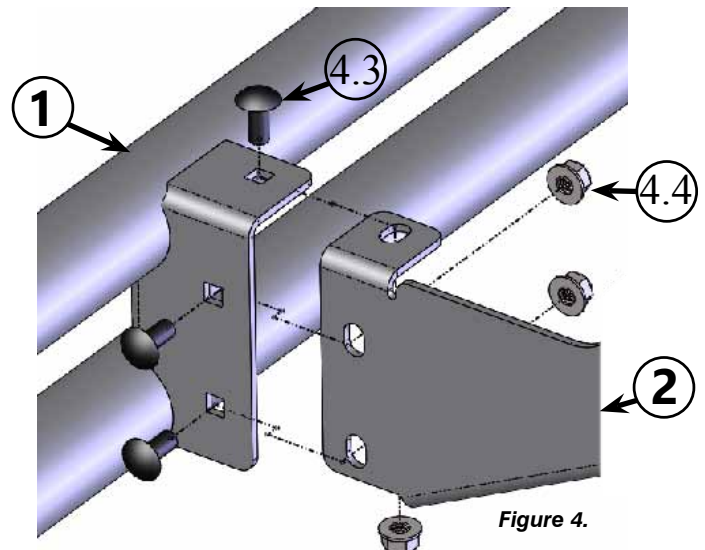

Figure 4.
8. Once bumper brackets are installed, fasten bumper (1) to bumper brackets (2) using 6x 5/16"-18 x .75 Carriage Bolt GR5 BLK (4.3) and 6x 5/16"-18 Hex Flange Nylock Nut GR5 Zinc (4.4) as shown in Figure 4